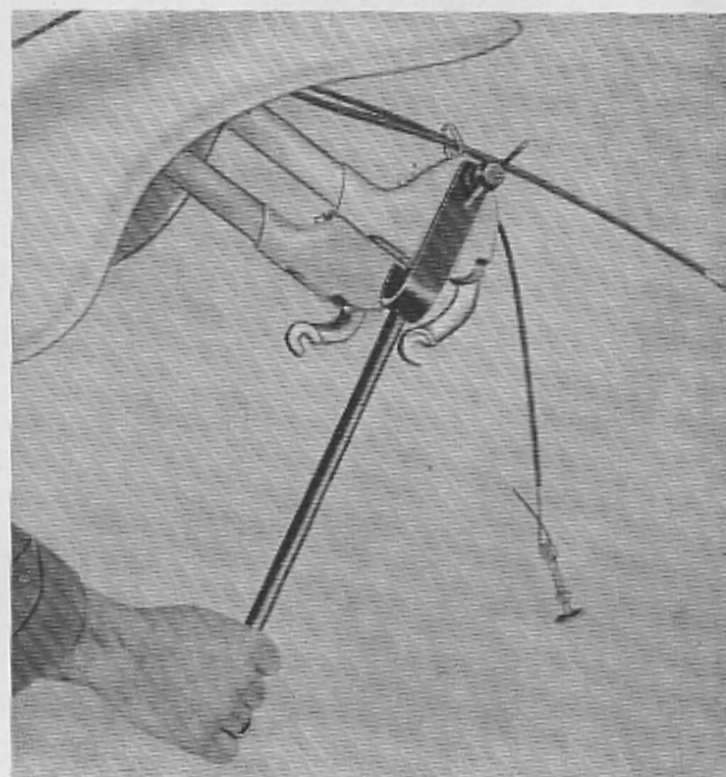

Fig. 38
- 60 To remove the trailing links; fit Tool No. 58021 and compress the suspension spring to remove the lever. See Fig. 38.